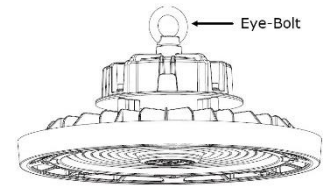

Figure 2
- 6: Attach chain or cable to eye-bolt on top of fixture. (Figure 2)